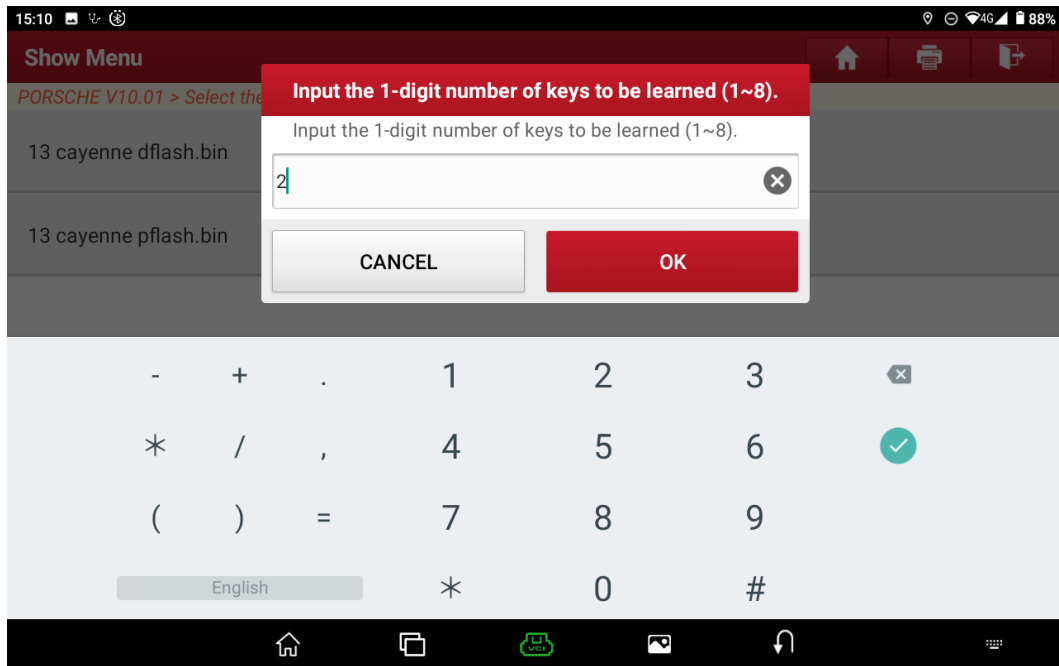

Figure 3-4 Input the number of keys to be learned
19. Choose "13 Cayenne dflash.bin". In the input box that pops up, input the number of keys to be learned (input 2), as shown in Figure 3-4.